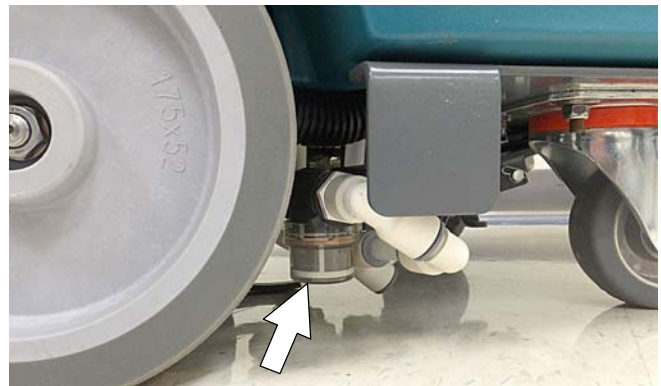

FIG. 147
2. Empty the water from the solution tank filter located under machine. Replace filter (Figure 147).